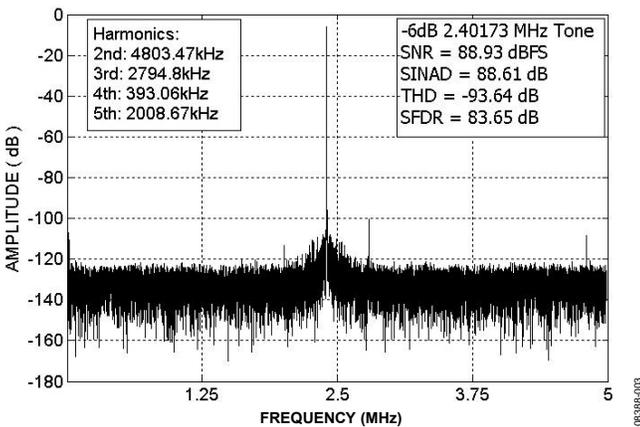

Figure 3. *AD7626* Output, 64,000-Point FFT Plot,  $-6$  dBFS Amplitude, 2.40173 MHz Input Tone, 10,000 MSPS Sampling Rate
2.794 MHz. Figure 3 shows a FFT plot for a tone with an amplitude of  $-6$  dBFS.